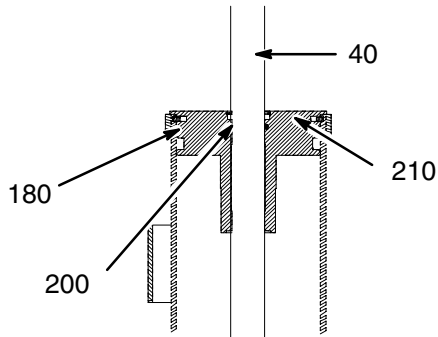

Fig. 23
13. Service the guide sleeve (Fig. 23):
- b. Remove the 2 old o-rings (180) and (200) in Fig. 23) from inside and outside the guide sleeve. Replace the o-rings with new ones.
- d. Slide the guide sleeve back onto the lift rod, positioning the guide sleeve so that the spiral retaining ring relieved area (9) faces toward the middle of the ram. Then push the guide sleeve all the way into the cylinder.